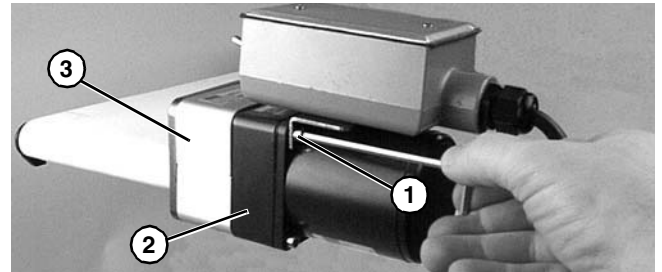

Figure 20
1. Remove four (4) screws (Figure 20, item 1). Remove gearmotor (Figure 20, item 2) and top cover (Figure 20, item 3).